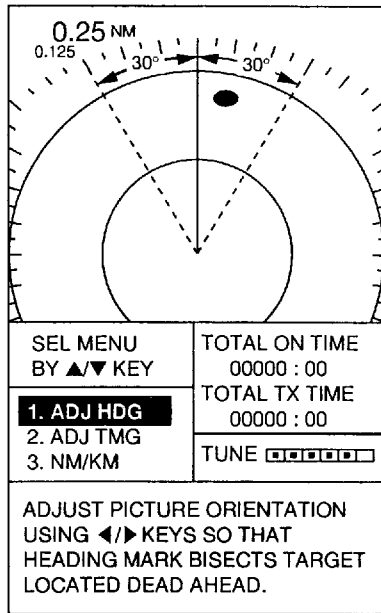

Figure 4-13 Display for adjustment of heading
3. Select ADJ HDG. Your display should now look something like the one shown in Figure 4-13.